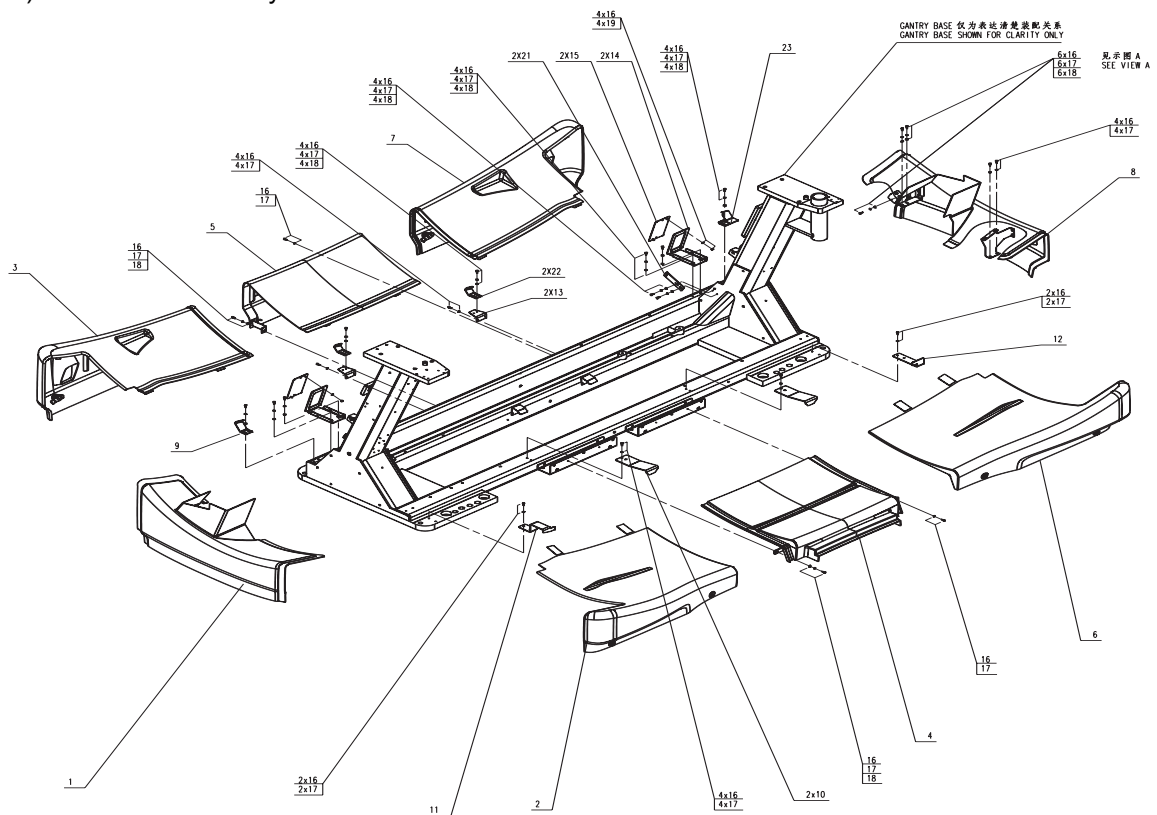

Figure 1-1 Gantry Base Cover
- 3.) Reinstall both rear base covers (see Figure 1-1).